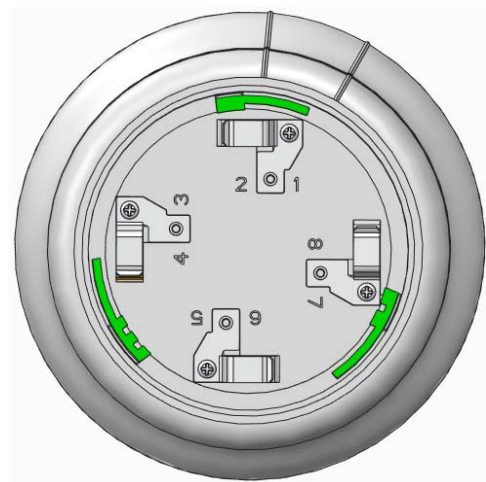
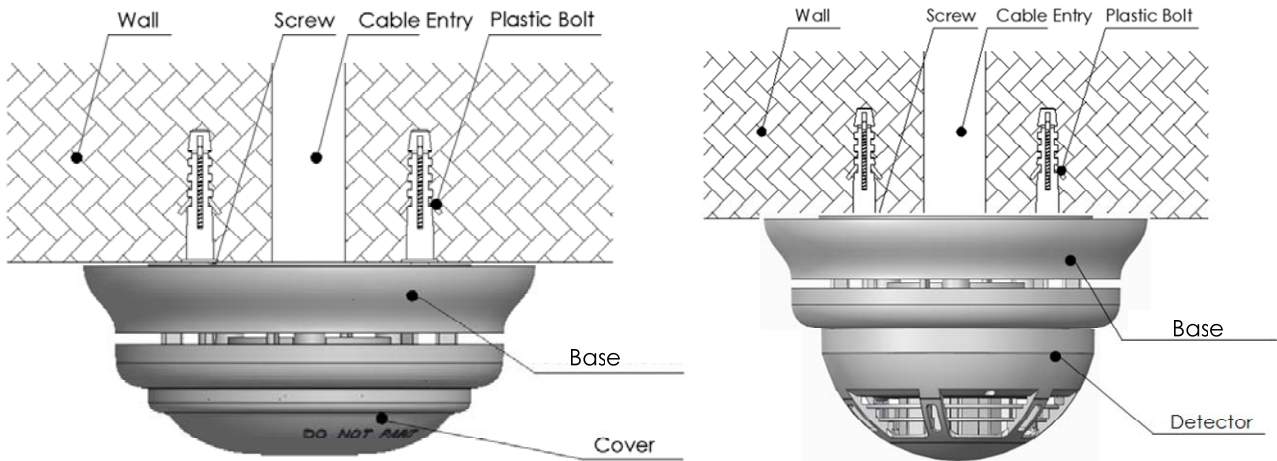

Fig.3 Top structure of the Base
Fig.4 Addressable Flashing Beacon Base with an upper cover or a detector
3. The top structure of the Addressable Flashing Beacon Base as shown in Figure 3. An upper cover or a detector can be mounted on the Addressable Flashing Beacon Base, as shown in Figure 4.